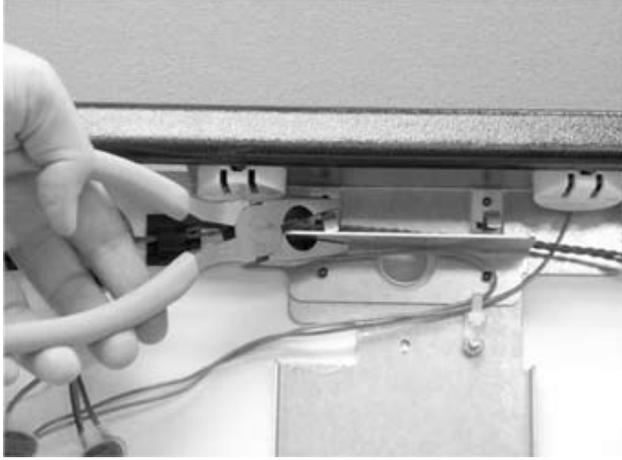
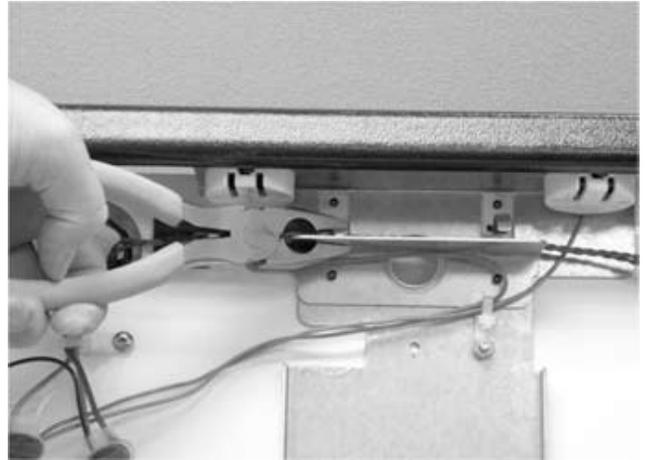
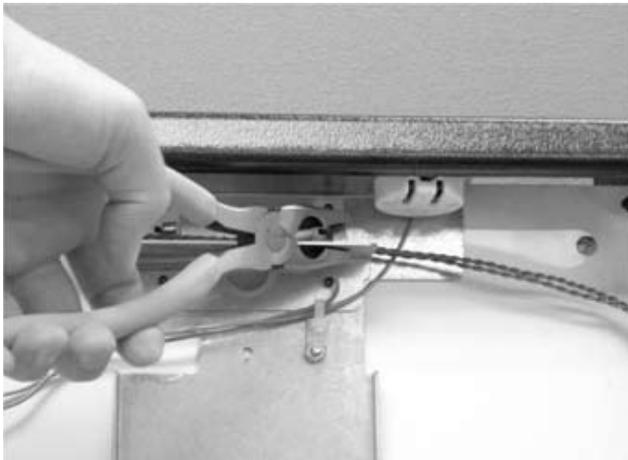
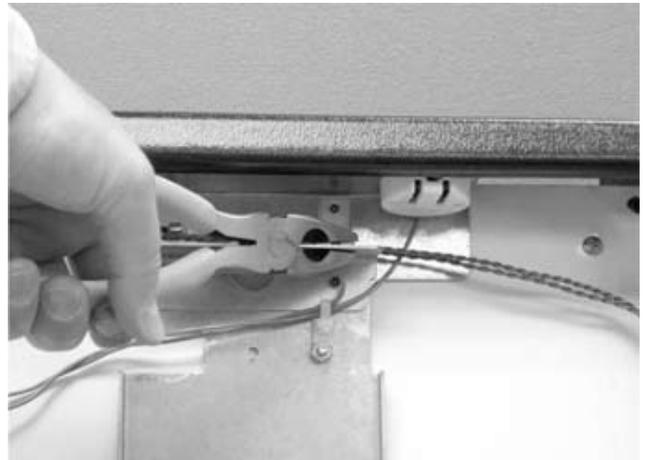

Figure 85.
Figure 86.
Figure 87.
Figure 88.
- Crimp both tabs with pliers, as shown in Figure 85, Figure 86, Figure 87 and Figure 88. This is necessary to allow the bulb to fit properly.